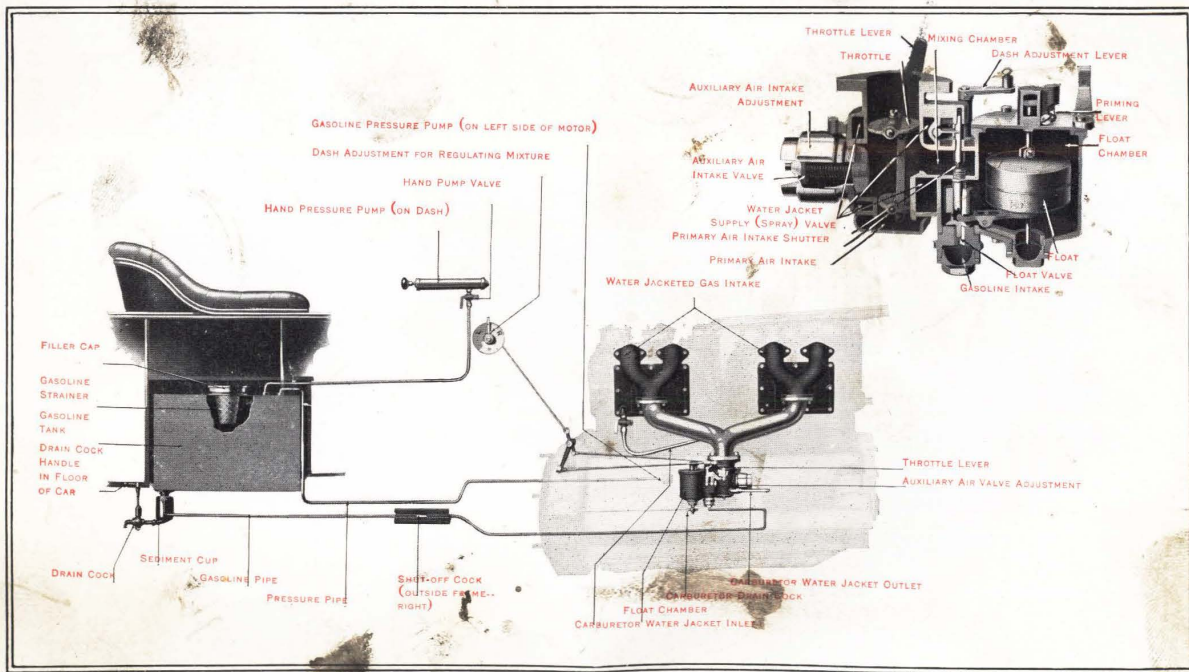

Fig. 6—Gasoline System of the Chalmers "Six"
The gasoline system consists of (1) the gasoline tank with sediment cup at bottom, and pressure regulator, (2) the gasoline pipe, (3) the carburetor and (4) the intake manifold. (See Fig. 6.) Liquid gasoline flows from the tank through the gasoline pipe to the carburetor. Here it is vaporized and mixed with air. The mixture is drawn by the suction of the descending piston into the cylinder where it is exploded by the spark.
(See Figure 6 for general diagram of gasoline system.)
After the car has been standing for a considerable length of time or when it has been left standing on a grade with the front wheels higher than the rear wheels, pressure should be secured by use of the hand pump (See Fig. 6) before attempting to start the motor.
At the lower end of the hand air pump is a two-way valve. When the handle of this valve is in a position parallel with the pipe, the hand pump is ready for operation. (See Fig. 6.)
Be sure the gasoline tank filler cap (See Fig. 6) is always air tight.
Lubricate hand pressure pump about once a month with four or five drops of thin oil. Oil hole will be found at top of pump. (See Fig. 6.)
Beneath gasoline tank is placed the sediment strainer and cup from which the gasoline pipe leads to the carburetor. (See Fig. 6.)
The float chamber (See Fig. 6) maintains a constant level or supply of gasoline for the motor.
After leaving the float chamber the gasoline passes through a nozzle (See Fig. 6) from which it is sprayed in a fine stream
The suction created by downward motion of the motor pistons draws air into the mixing chamber through both the primary and auxiliary air inlets. (See Fig. 6.) This air floats into the mixing chamber around the nozzle and picks up the gasoline which leaves the nozzle in the form of a spray. Thus the action of the mixing chamber is not unlike that of an ordinary atomizer in which the air forced from the rubber bulb picks up a certain amount of the liquid in the bottle and sprays it out in the form of a fine vapor.
At the front end of the carburetor is the "auxiliary" air inlet. This is controlled by a spring. (See Fig. 6.) At low speeds when only a small amount of air is being drawn through the carburetor the spring holds this valve almost shut. As the speed increases and more air is needed the suction operating against the tension of the spring draws the valve further and further open, thus giving an increased supply of air exactly in proportion to the need for the increased speed. The carburetor thus automatically produces the correct mixture for all motor speeds.
On the throttle lever and at the base of the dash supply valve adjustment lever (See Fig. 6) are two nickel plated screws for the permanent adjustment of the gasoline supply valve. Do not touch these except under the direction of a Chalmers dealer.
As explained above, when the gasoline rises to a certain height in the float chamber, the float valve automatically closes. If, for any reason, it should be desirable to have a greater pressure of gasoline in the carburetor (as, for instance, in extremely cold weather), pull the priming lever at the top of the float chamber. (See Fig. 6.)
The throttle valve, which is of the "butterfly" or "shutter" type, is located just below the inlet manifold. (See Fig. 6.) It is connected by a rod, with the hand throttle and the foot accelerator (See Page 11).